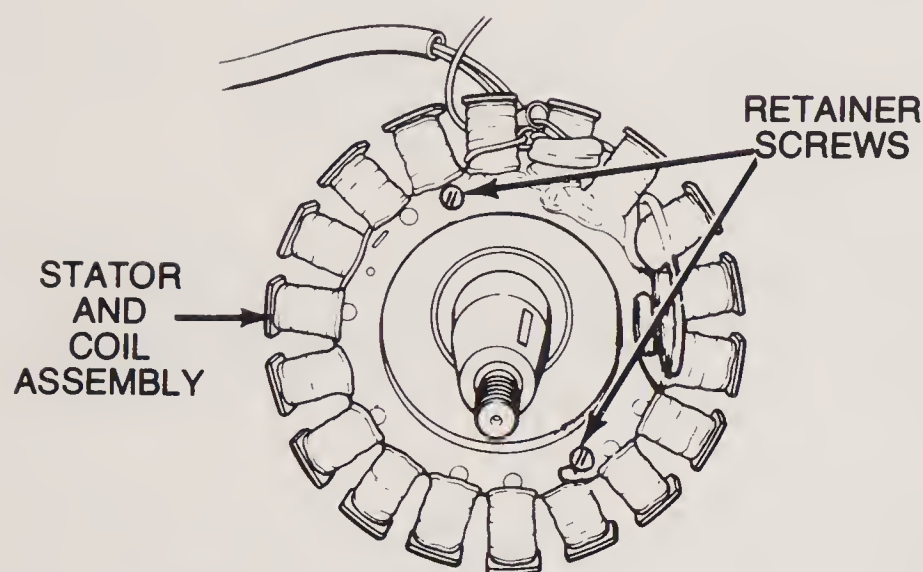

FIGURE 11-6
Like the single-unit DC generator, the alternator system can be a separate unit. But the most common alternator systems use a permanent magnet attached to the inner rim of the flywheel, like the magneto. A stator assembly is attached to a plate on the engine, which is located behind the flywheel. The magneto usually has only one stator coil as the source of energy. When an alternator is used to charge the battery, the current produced is alternating (AC) in nature. A rectifier or diode arrangement of some sort must be used in the circuit to convert the AC electricity to direct current (DC) before going to the battery, which can be charged only with direct current. Figure 11-6 shows the coil arrangement used to provide electricity for the ignition system, along with an alternator to charge the battery or to operate a lighting system.